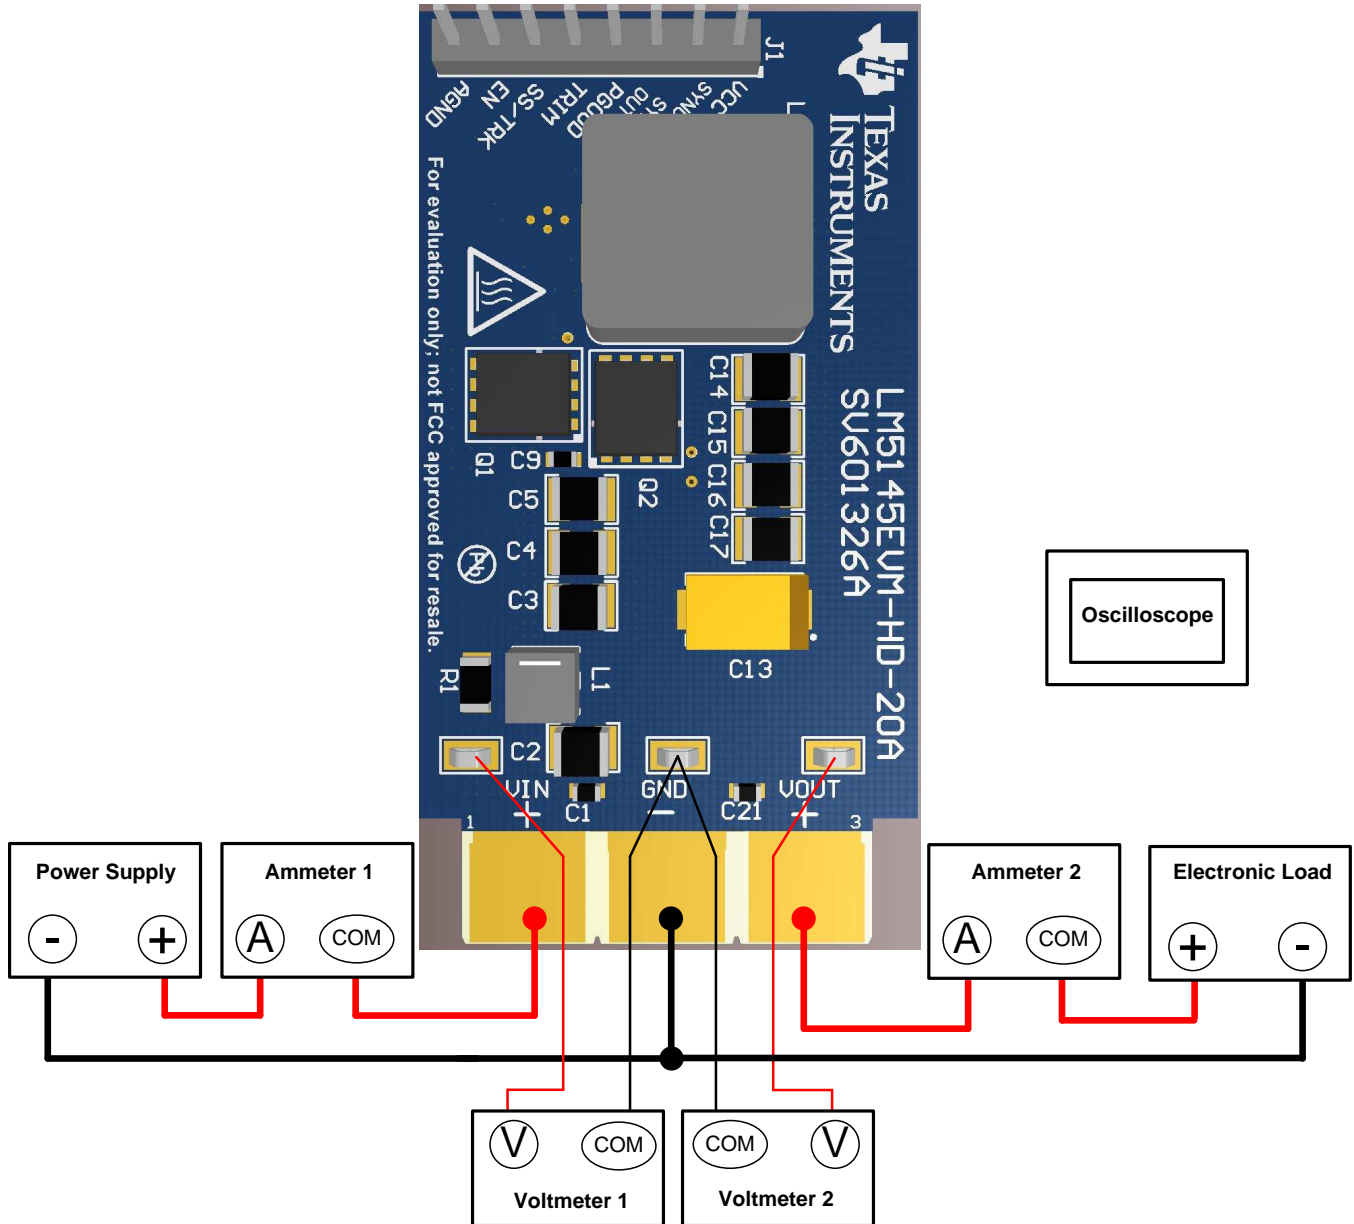

Figure 3. EVM Test Setup
Referencing the EVM connections described in Table 2, the recommended test setup to evaluate the LM5145EVM-HD-20A is shown in Figure 3. Working at an ESD-protected workstation, make sure that any wrist straps, boot straps, or mats are connected and referencing the user to earth ground before power is applied to the EVM.
- Prior to connecting the DC input source, set the current limit of the input supply to 0.1 A maximum. Ensure the input source is initially set to 0 V and connected to the VIN and GND connection points as shown in Figure 3. An additional input bulk capacitor is recommended to provide damping if long input lines are used.